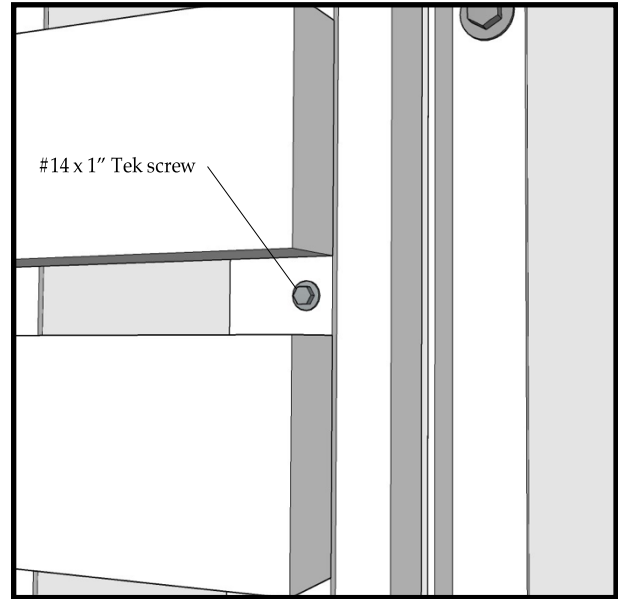

Fig 6
5. Starting from the top corner, attach the appropriate Corner Screen (#1) with the #14 x 1" Tek screws provided in the field kit (Fig 6) by securing the angle on the back of the screen to the Vertical Attachment Rail.